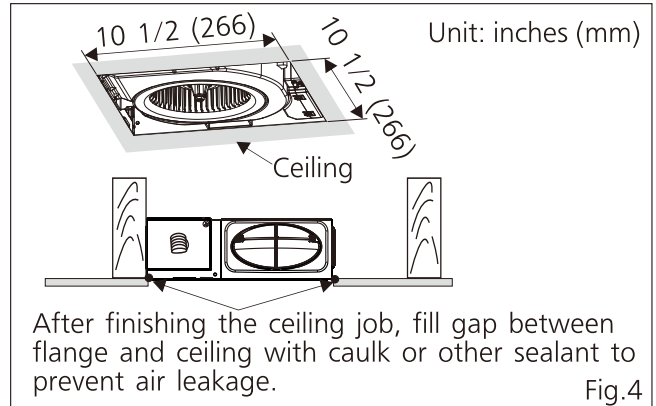

Fig.4
- Finish ceiling work. Ceiling hole should be aligned with the inside edge of the flange. (Fig.4)